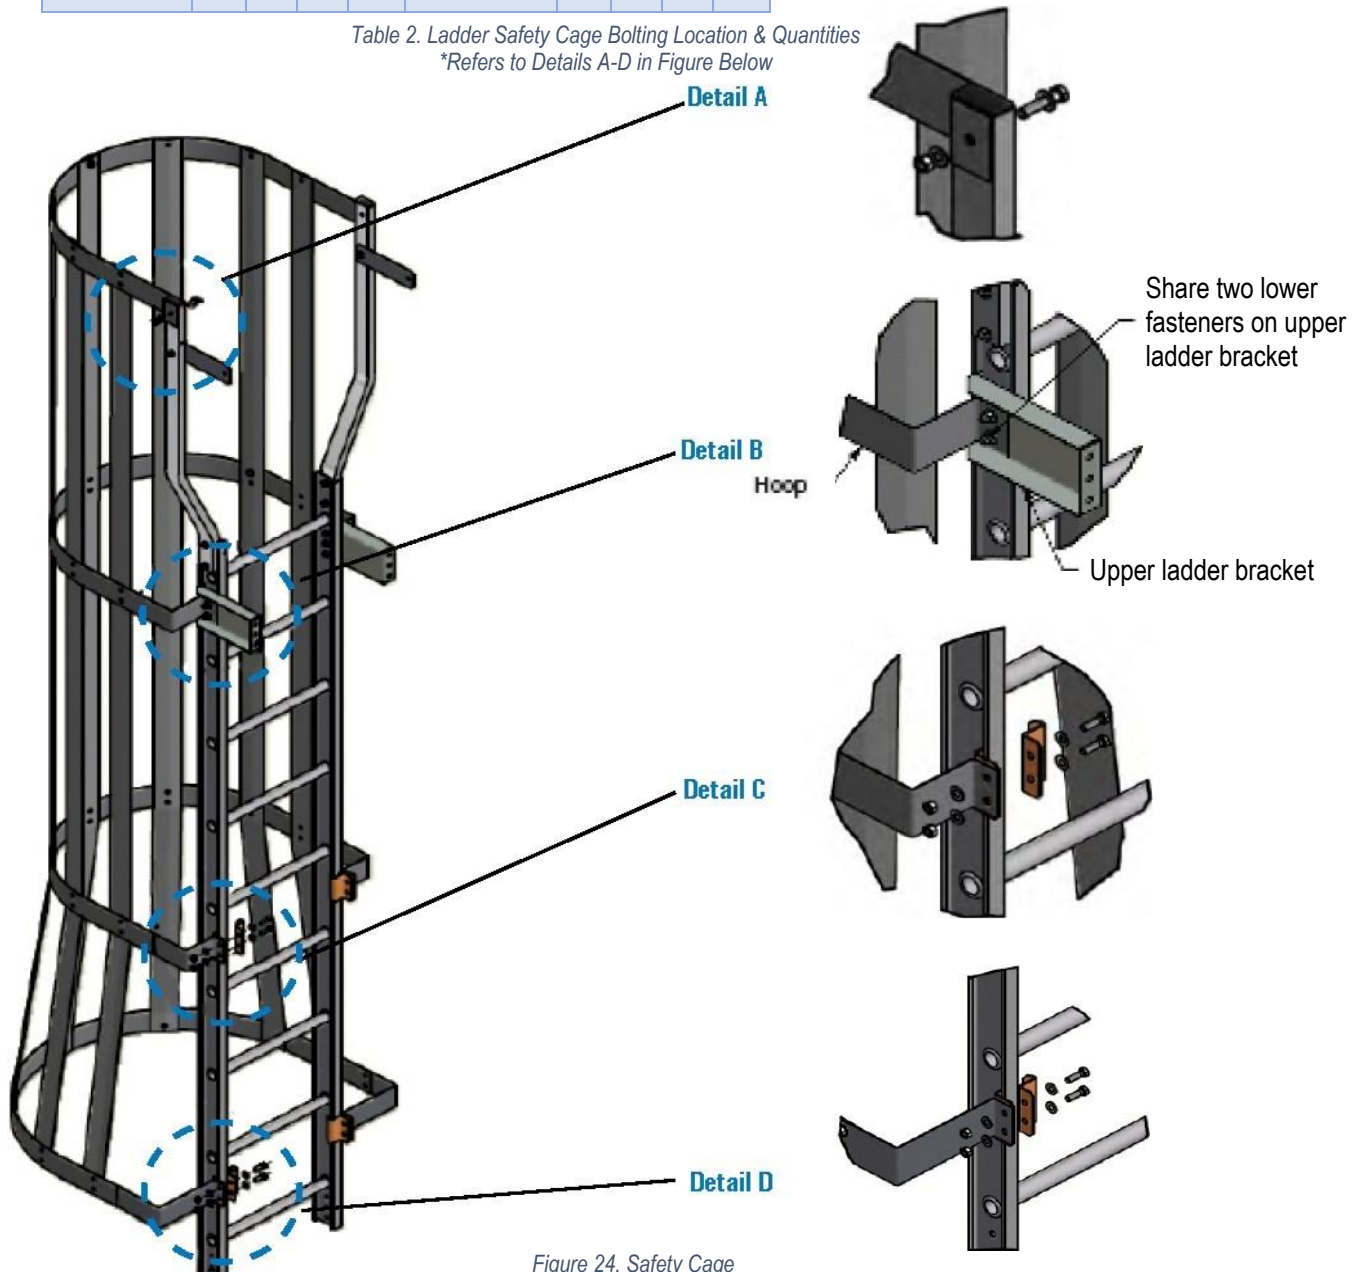

Figure 24. Safety Cage
2. Bolt the safety cage to the ladder using flat washers and locknuts. Orient all fasteners with bolt heads inside safety cage. See **Figure 24, Detail A** through **D** and refer to **Table 2** for the quantity of bolting locations for different safety cage heights.